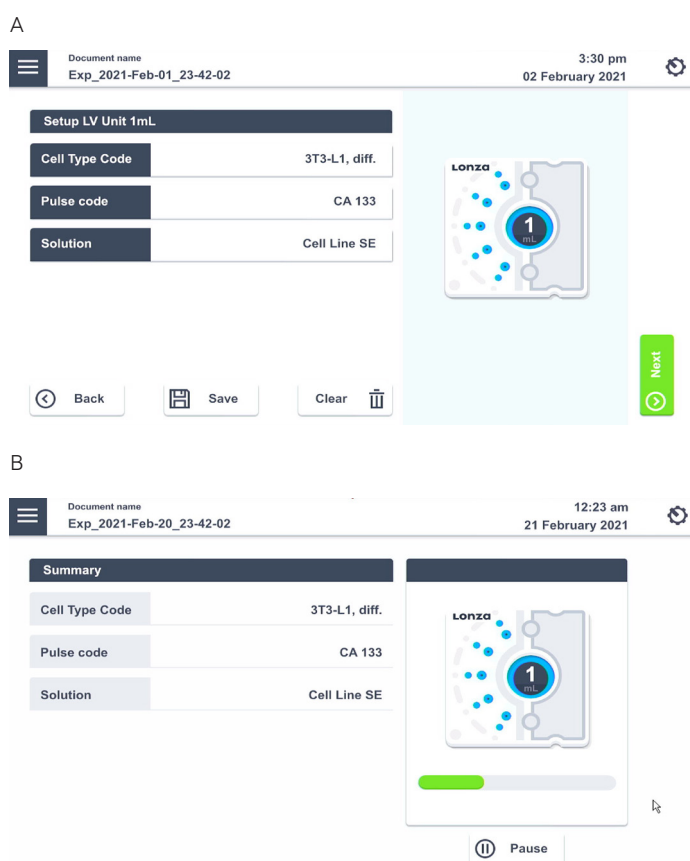

Figure 2.36: (A) Experiment setup screen for 4D-Nucleofector® LV Unit using 1 mL Nucleocuvette® Cartridge. (B) Progress screen during experiment.
A screen appears with the title “Setup LV 1 mL” (Figure 2.36 A).
2. The progress of the experiment is indicated by a progress bar (Figure 2.36 B).
If you want to create a new Experiment, tap in the field "Experiment name" and enter a specific experiment name or accept the suggested name generated with date and time stamp. Press "Submit" to get to Experiment setup screen (Figure 2.36).